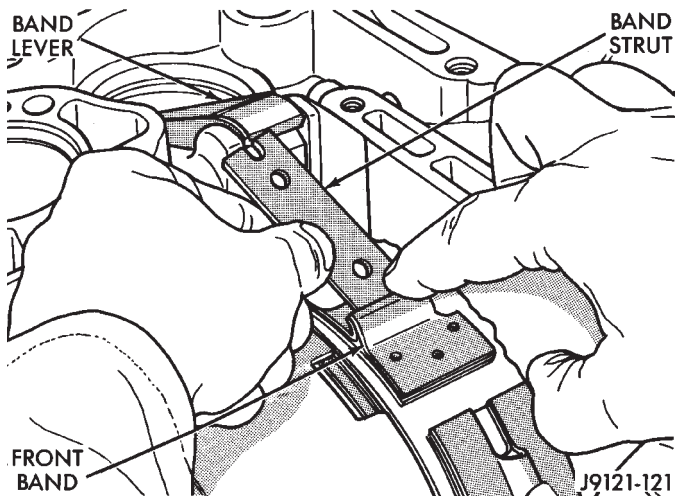

Fig. 11 Removing/Installing Front Band Strut
- (18) Loosen front band adjusting screw until band is completely loose.
- (19) Squeeze front band together and remove band strut (Fig. 11).